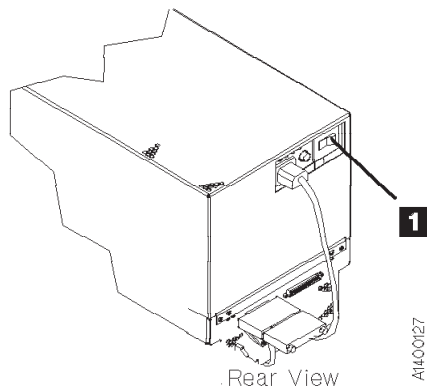

Figure 9-1. Subsystem Power Switch
2. Power OFF the failing device by using the power switch on the back of the device. See Figure 9-1 on page 9-7 for the location of power switch.
12. Power OFF the failing device by using the power switch on the back of the device. See Figure 9-1 on page 9-7 for location of power switch.
16. Power OFF the failing device by using the power switch on the back of the device. See Figure 9-1 on page 9-7 for location of power switch.